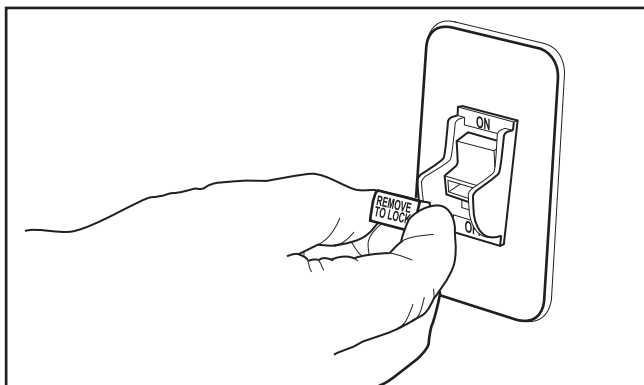

Figure 22. Removing disabling key from power switch.
12. Move power switch to OFF position, then remove switch disabling key, as shown in **Figure 22**.